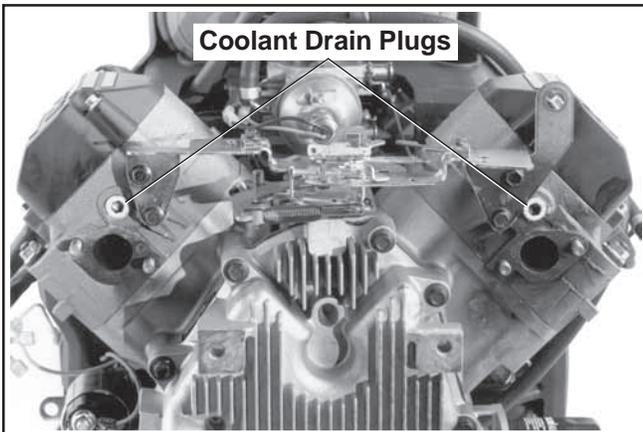

Figure 12. Location of Coolant Drain Plugs.
4. Locate and remove the coolant drain plug in the lower side of both cylinder heads. See Figure 12. Drain the coolant into a suitable container. After the coolant has drained, apply pipe sealant with Teflon® (not Teflon® tape) to the threads and reinstall the plugs. Torque the plugs to **13.5 N·m (120 in. lb.)**.